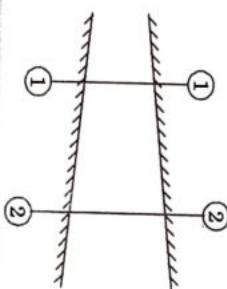

Fig. 3.10.1. Fluid flow through a pipe.
1. Consider two cross-section of a pipe as shown in Fig. 3.10.1.